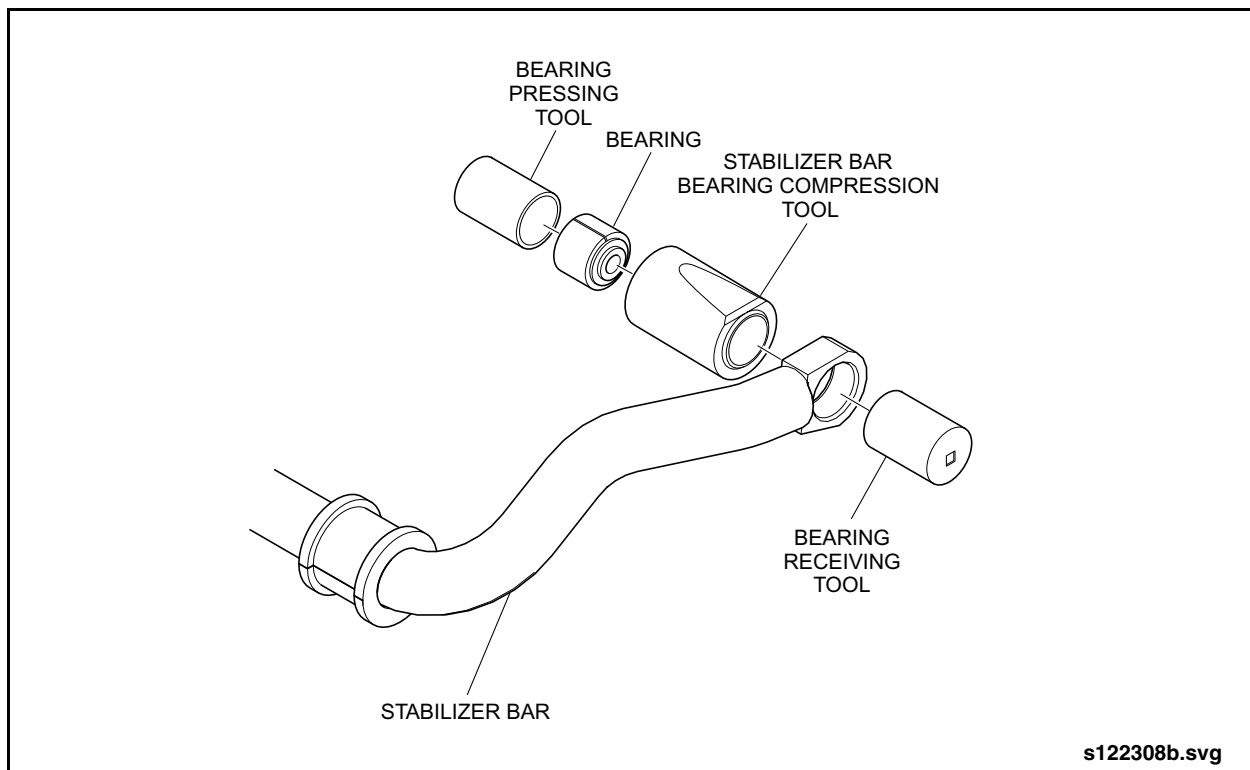

Fig. 5: Stabilizer Bar Bearing Installation
2. Put the bearing compression tool onto the stabilizer bar at the bearing opening. See “Fig. 5: Stabilizer Bar Bearing Installation” on page 7.